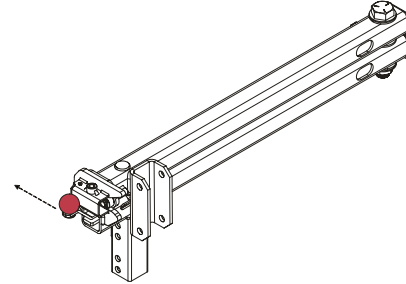

Figure 3-10
2. Push red latch ball. See Figure 3-10.